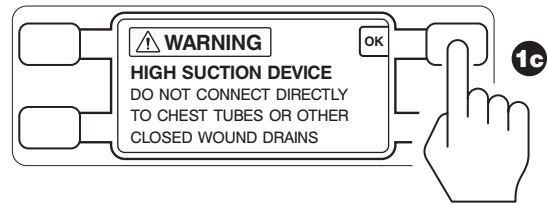

Figure 12 High Suction Device Warning
- c. Read the WARNING message on the control panel display, then push the control panel display button next to OK to access the CONTROL screen (Figure 12).